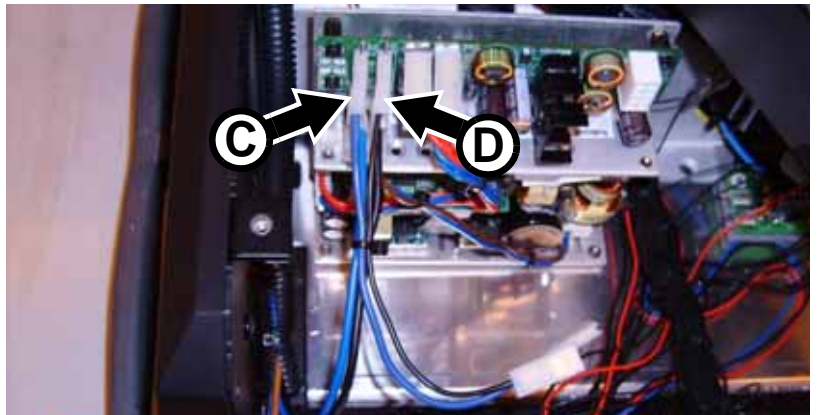

Figure 29
31. See Figure 29. A short blue lead **C** is secured with a cable tie to the end of the ballast wiring harness. Connect one end of this short blue lead to spade connector PL109 on the SMPS PCB. Connect one end of the short black lead **D** to spade connector PL106.